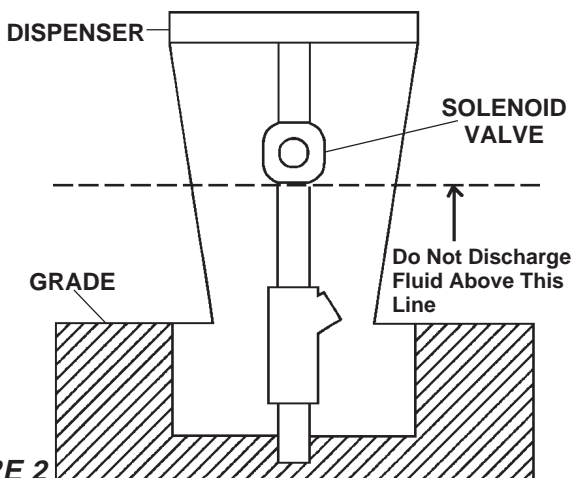

FIGURE 2
**DO NOT attempt to perform a leak test above the solenoid valve. Properly installed leak detectors may not react to leaks above solenoid valves that are normally inside dispensers—sometimes several feet above island level. See Figure 2.**